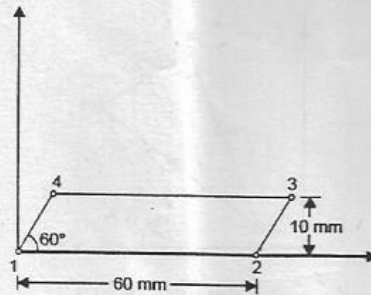

Fig. 14 (a)
14. (a) Determine Jacobian matrix and strain displacement matrix corresponding to the Gauss point (0.57735, 0.57735) for the element shown in Fig. 14 (a). (13)